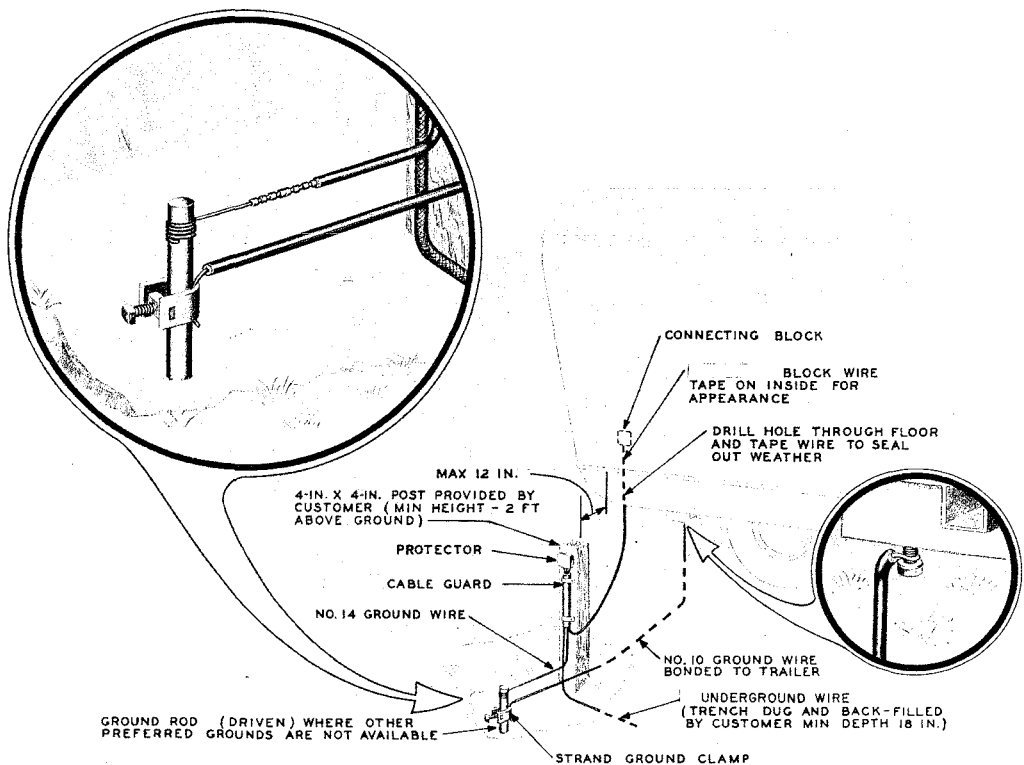

Fig. 3 — Buried Wire Distribution
4.01 Autotrailer installations generally vary, depending on the type of facilities provided by the customer. Typical wiring arrangements are shown in Fig. 3 and 4.
4.04 The protector ground should be bonded to the autotrailer body or chassis by No. 10 ground wire. The ground wire bonding the autotrailer should be installed to give the best possible mechanical protection, such as that shown in Fig. 3 and 4.